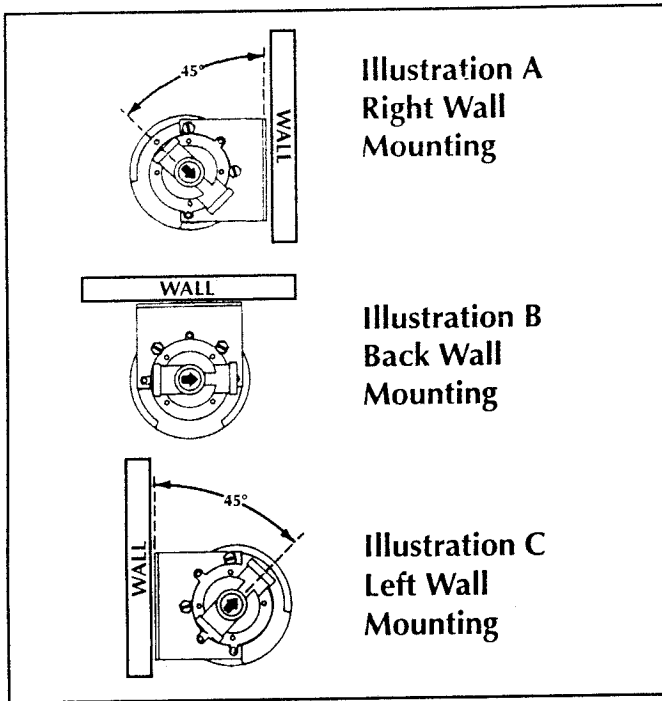

Figure 2
- Refer to **Figure 2** to determine the best filter bracket position to accommodate the water connections.